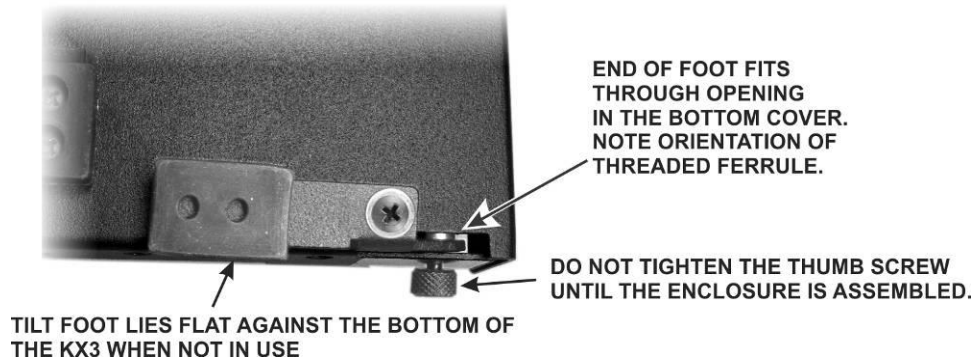

Figure 46. Installing the Tilt Feet in the Rear Cover.
□ Install the two tilt feet in the slots in the rear panel as shown in Figure 46. Do not tighten the thumb screws. Leave them loose until the front panel assembly is mounted.